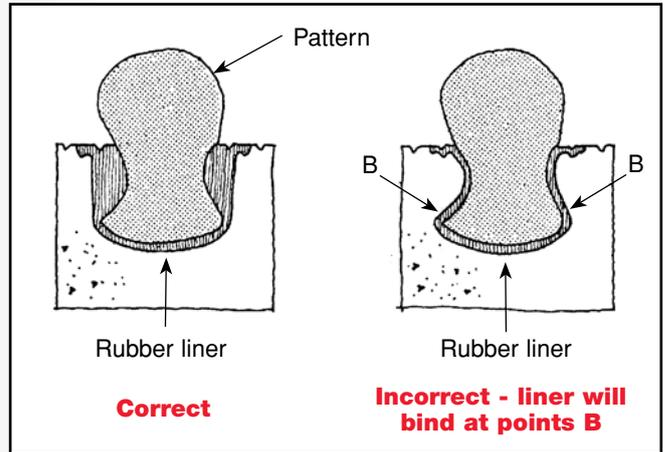

Figure 3: Making provision for separating the rubber liner and jacket of a mould
- Although the rubber liner can be "peeled" off the casting, the liner-jacket interface must be shaped to allow separation without binding or distortion of the liner (see Figure 3).